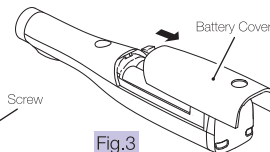

Fig.3
- 3) Remove the battery cover by sliding it toward the charging terminal. (Fig. 3)